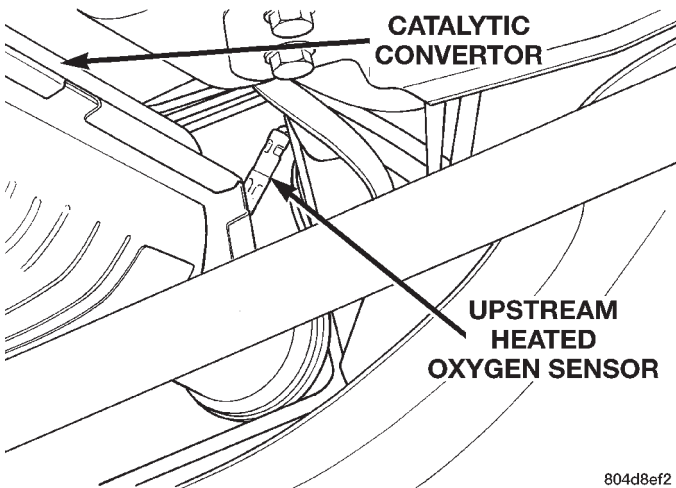

Fig. 80 Upstream Heated Oxygen Sensor Removal/Installation
- (1) Raise and support vehicle.
- (2) Disconnect electrical connector from sensor.
- (3) Remove sensor using an oxygen sensor crow foot wrench such as Snap-On tool YA8875 or equivalent (Fig. 80).